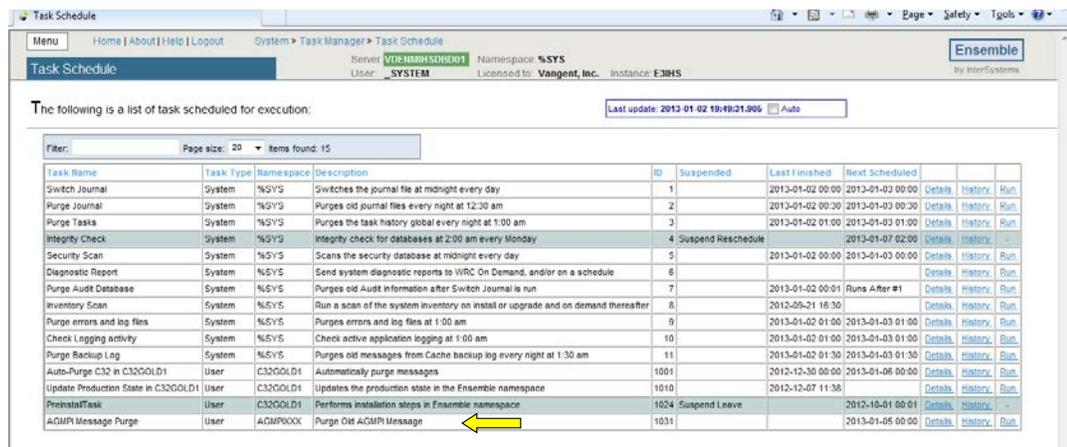

Figure C-6: **Task Schedule** page with new task displayed
15. Click **Finish** to display the **Task Schedule** page with the new task at the bottom of the page, as shown in Figure C-6.